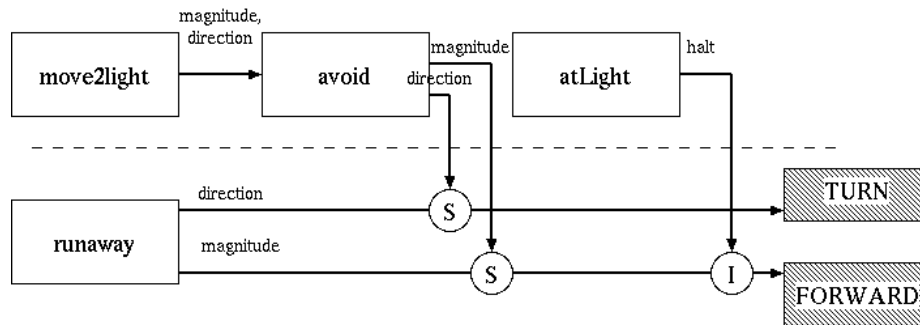

Figure 12: Sample Photophilic Architecture (no random wander)
3. If the robot detects a light it should move with respect to the sensorimotor connections toward the light source while also avoiding obstacles. If the robot does not detect a light source or an obstacle, then it should random wander. Figure 12 is an example of a subsumption architecture, but it does not include random wander. Turn on RED LED to indicate an obstacle. Turn on a GREEN LED to indicate random wander.